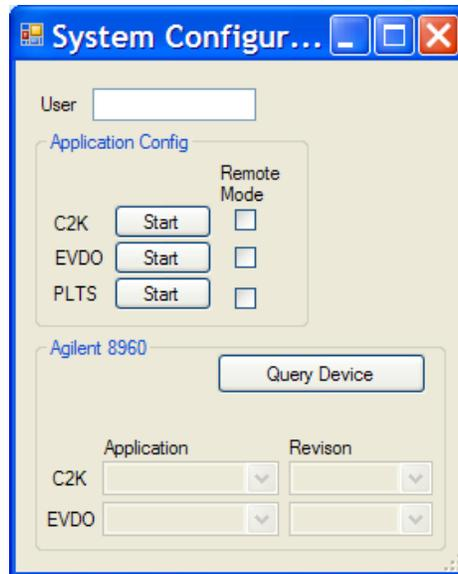

Figure 4-30 System Configuration Window
The *System Configuration* window displays, as shown in Figure 4-30.
12. Select the application using the **Agilent 8960** settings in the *System Configuration* window, as shown in Figure 4-30.